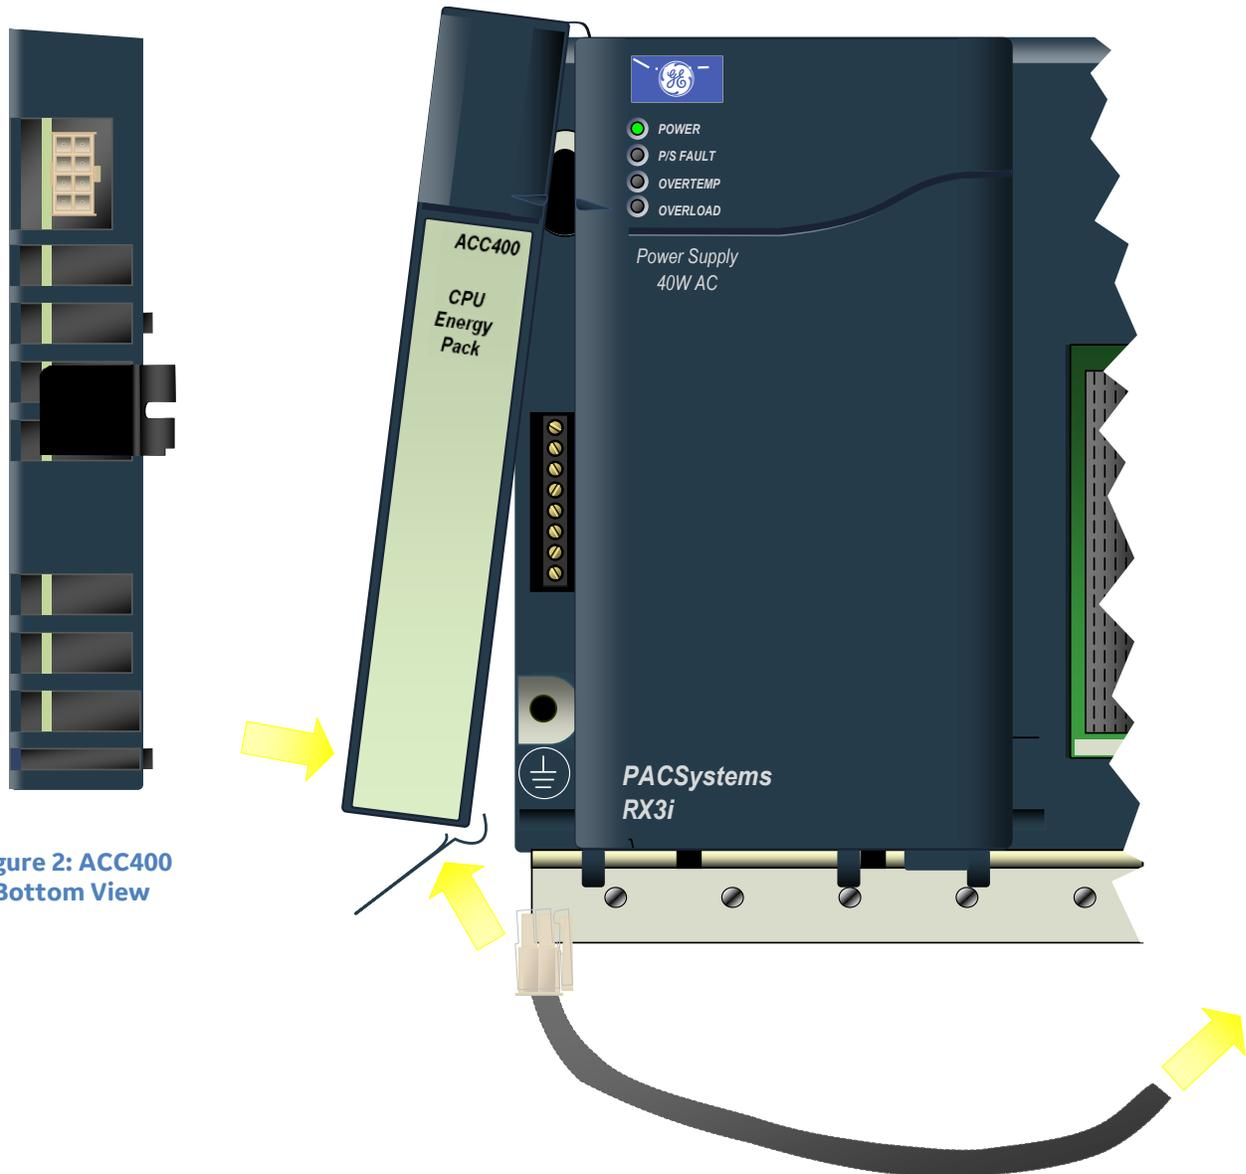

Figure 2: ACC400
3. Connect the IC695CBL001 cable from the connector on the bottom of the Energy Pack (Figure 2) to the corresponding connector on the bottom of the CPU.